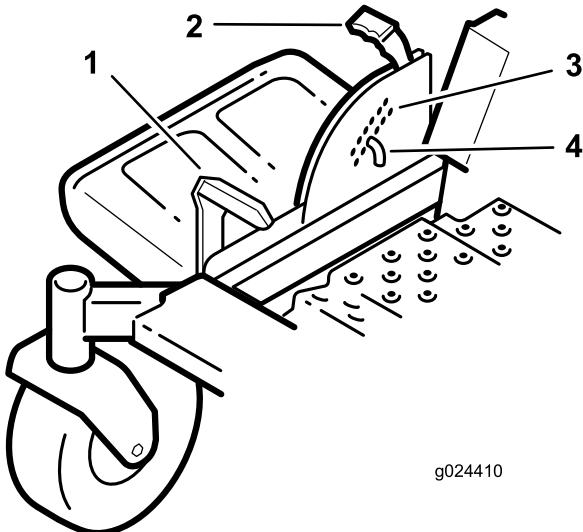

Figure 23
1. Push on the deck lift pedal with your foot and raise the mower deck to the transport lock position (also the 114 mm (4-1/2 inch) cutting height position) (Figure 23).
2. To adjust, remove the pin from the height-of-cut bracket (Figure 23).
3. Select a hole in the height-of-cut system corresponding to the height-of-cut desired and insert the pin (Figure 23).